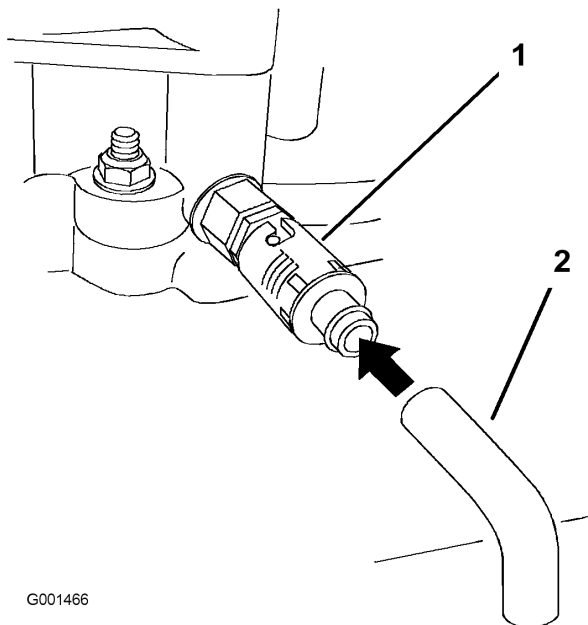

Figure 27
6. Place a pan below the drain hose. Rotate oil drain valve to allow oil to drain (Figure 27).
8. Remove the drain hose (Figure 27).